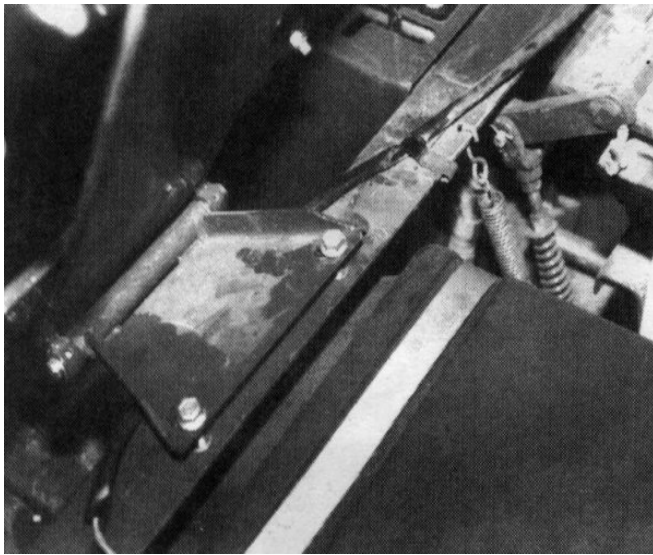

Figure 1
2. Loosen seat-mounting bolts in machine frame as shown in Figure 1.